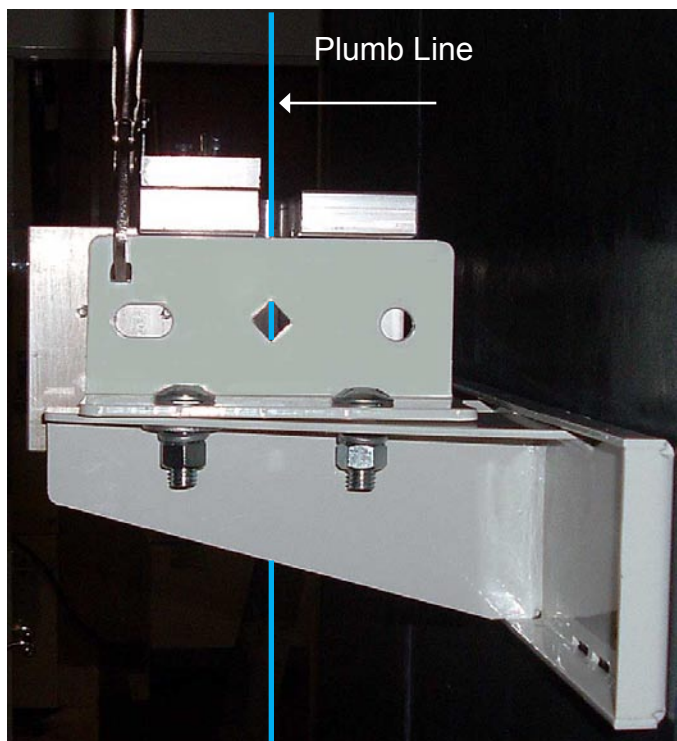

**Figure 14** Cut Off excess through bolt
- 11) Install the pre-assembled rail brackets using the wall fasteners making sure that the brackets are level. If thru-bolts are used cut off the excess threaded rod protruding from the rail brackets as shown in Figure 14.